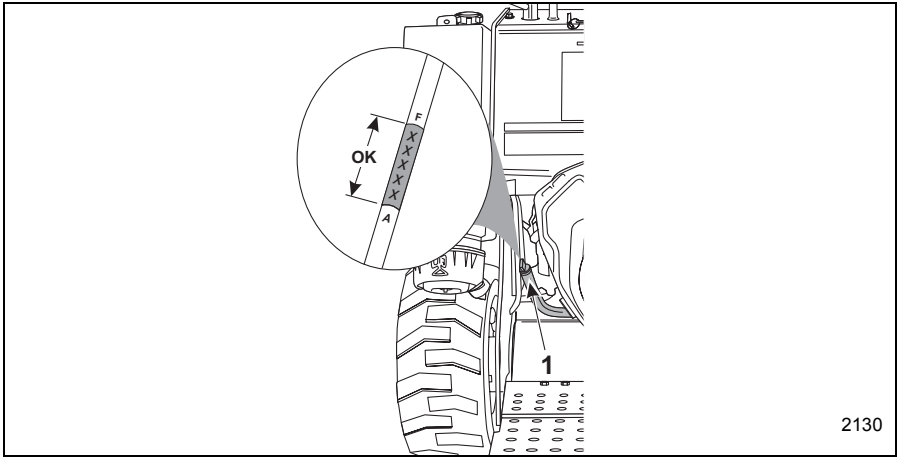

Figure 3-1 Engine Oil Level Check
- Pull out the dipstick and look for both the full and add oil lines (Item 1, Figure 3-1) indicated by the letters “F” and “A”. The correct oil level is between those two lines.
- If the engine oil level is below the add line, indicated by the letter “A” on the dipstick, carefully add the proper amount of oil through the engine oil filler tube (Item 1, Figure 3-1). It is important to add the correct type of engine oil as stated in the engine manual.